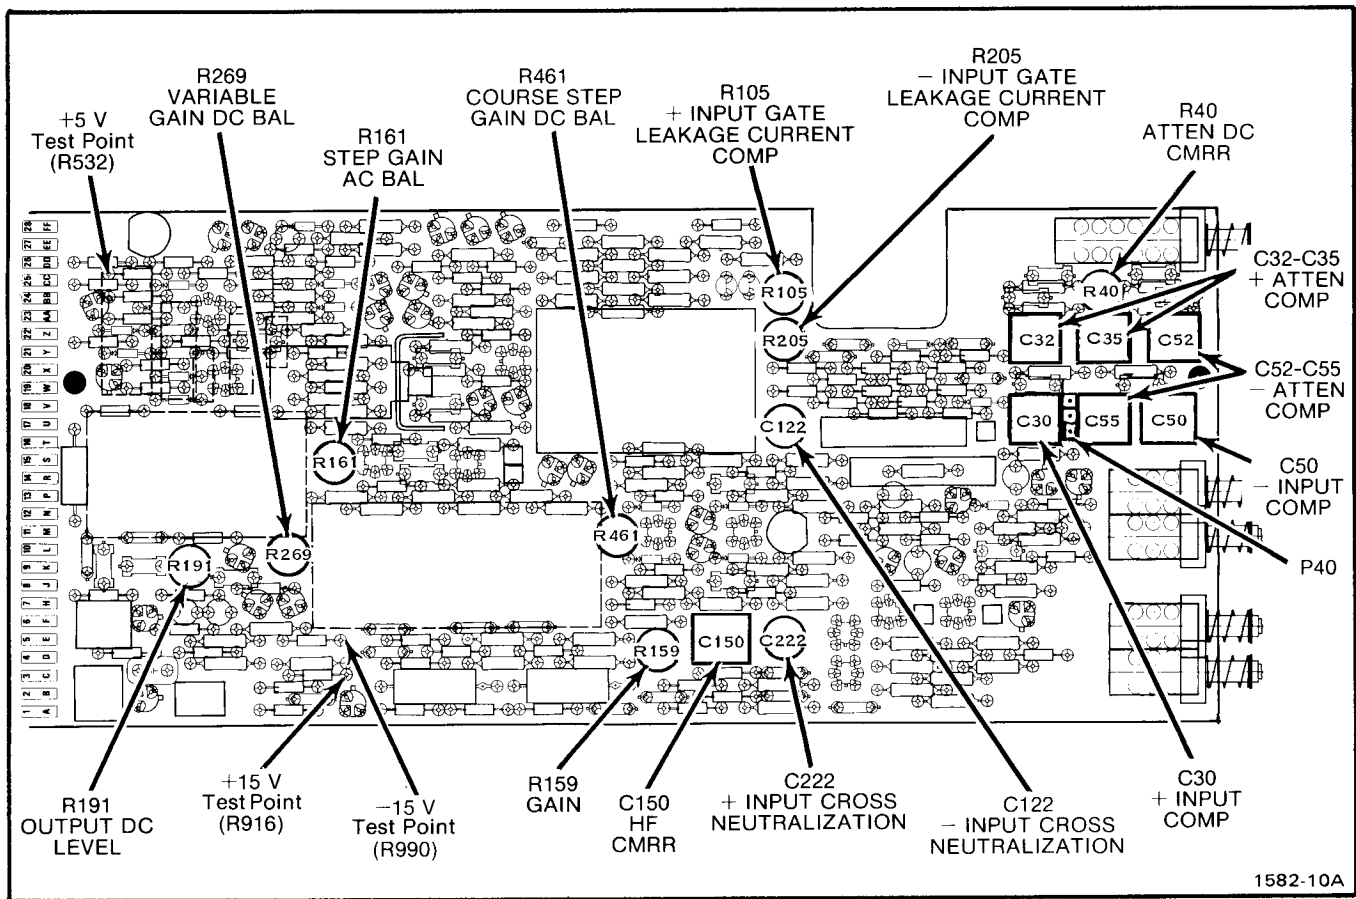

Fig. 3-1. Location of power supply test points, and all adjustments.
a. Connect the digital voltmeter between the +15 V test point on the Main circuit board, and chassis ground. See Fig. 3-1 for voltage test point location.
a. Connect the digital voltmeter between the -15 V test point on the Main circuit board, and chassis ground. See Fig. 3-1 for voltage test point location.
a. Connect the digital voltmeter between the +5 V test point on the Main circuit board, and chassis ground. See Fig. 3-1 for voltage test point location.
c. Adjust—Step Gain AC Bal, R161, for minimum trace shift while switching the AM 502 GAIN switch between the 100 and 100K positions. See Fig. 3-1 for adjustment location.
c. Adjust—Variable Gain DC BAL, R269, for minimum trace shift while rotating the AM 502 CAL control from fully clockwise to fully counterclockwise position. See Fig. 3-1 for adjustment location. Return control to the fully clockwise position and note the position of the trace.
- c. Adjust—Coarse Step Gain DC Bal, R461, to return trace to the center of the graticule. See Fig. 3-1 for adjustment location.
g. Adjust— +Input Comp, C30, for best flat top (minimum roll-off or overshoot on upper front corner) on displayed waveform. See Fig. 3-1 for adjustment location.